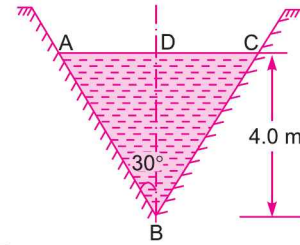

Fig. 16.6
**Problem 16.7** Find the rate of flow of water through a V-shaped channel as shown in Fig. 16.6. Take the value of  $C = 55$  and slope of the bed 1 in 2000.
From Fig. 16.6, we have